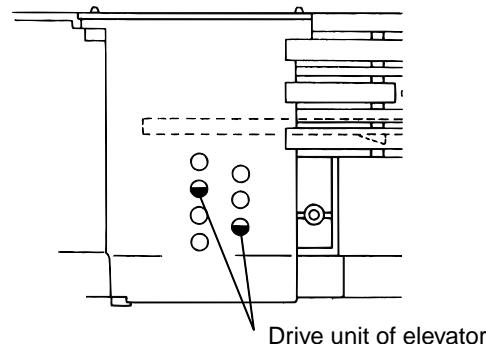
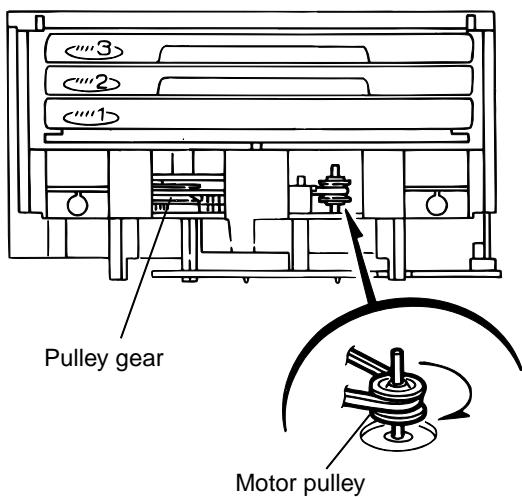

Fig.7
Fig.8
**[Caution]** In case the driver unit elevator is not at above position, set the elevator to the position as shown in Fig.7 by manually turning the pulley gear as shown in Fig.8.
13. Manually turn the motor pulley in the clockwise direction until the lifter unit stopper is lowered from the section "E" of DVD tray assembly (See Fig.8).